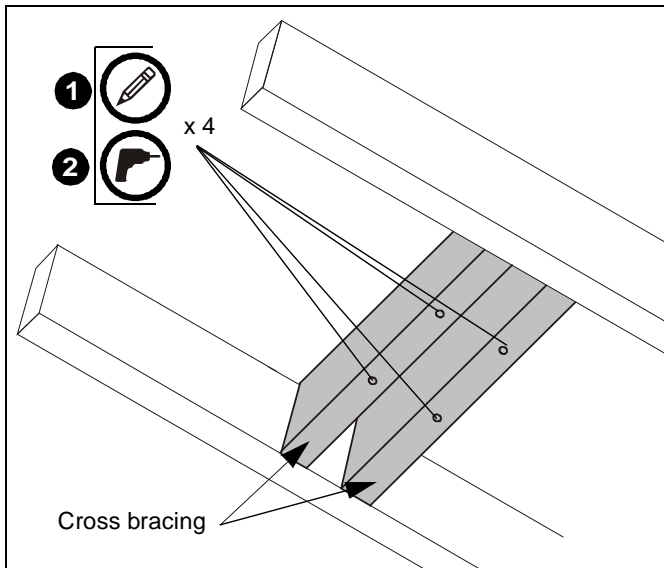

Figure 1
- Using ceiling plate (A) as a template, mark locations of four pilot holes (See Figure 1). Ensure the marks are in the center of wood joists.
- Drill 7/32" diameter pilot holes into wood stud cross bracing. (See Figure 1) Ensure pilot holes are straight.